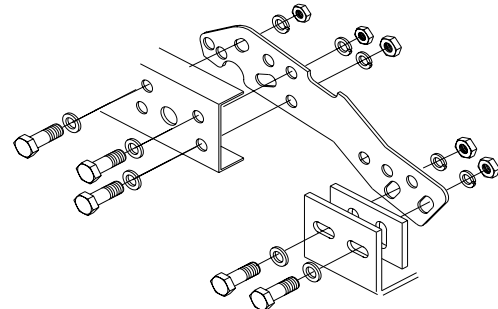

FIGURE 2 (driver side view)
STEP 2: Install bumper using spacer plates between mounting brackets and hitch with brackets INSIDE of bumper hitch. See figure 2.